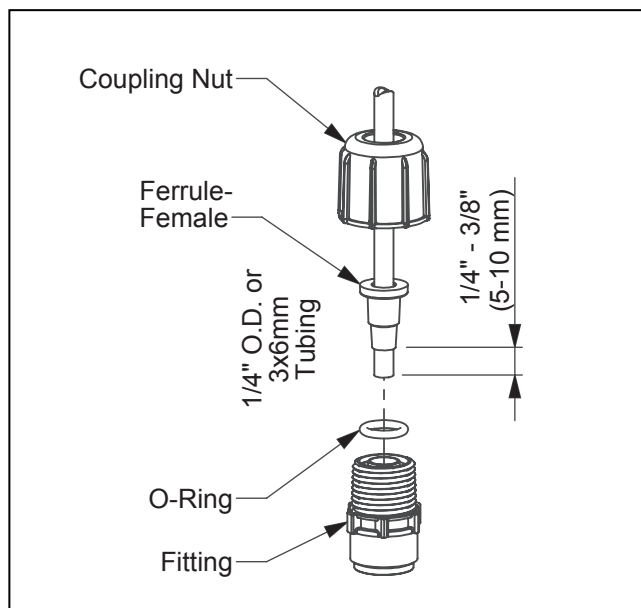

Figure 7A.
| FIGURE 7A & 7B. Tubing Connections. | 8 |
- a. **For 1/4" OD tubing:** Position the Female Ferrule so that 1/4" to 3/8" (5-10 mm) of tubing protrudes from the Female Ferrule. Orient the raised collar of the Ferrule toward the Coupling Nut (*reference FIGURE 7A*).